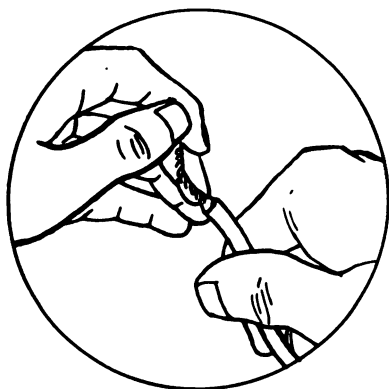

Fig. 6
6. Twist small wires together, clockwise. (Fig. 6)